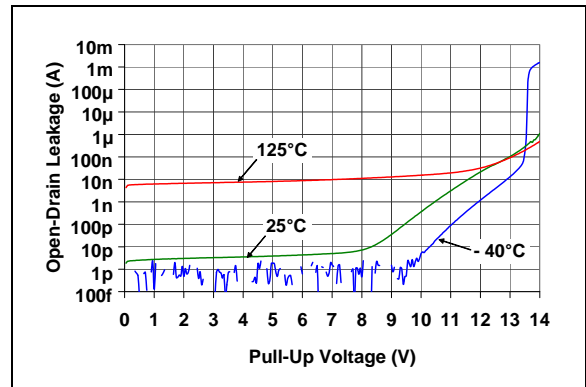

FIGURE 2-28: Open-Drain Leakage Current vs. Voltage Applied to V_{OUT} Pin (MCP111-195).
Note 3: This specification allows this device to be used in PIC[®] microcontroller applications that require the In-Circuit Serial Programming[™] (ICSP[™]) feature (see device-specific programming specifications for voltage requirements). This specification DOES NOT allow a continuous high voltage to be present on the open-drain output pin (V_{OUT}). The total time that the V_{OUT} pin can be above the maximum device operational voltage (5.5V) is 100 sec. Current into the V_{OUT} pin should be limited to 2 mA. It is recommended that the device operational temperature be maintained between 0°C to 70°C (+25°C preferred). For additional information, please refer to Figure 2-28.
- Note 3:** This specification allows this device to be used in PIC[®] microcontroller applications that require the In-Circuit Serial Programming™ (ICSP™) feature (see device-specific programming specifications for voltage requirements). This specification DOES NOT allow a continuous high voltage to be present on the open-drain output pin (V_{OUT}). The total time that the V_{OUT} pin can be above the maximum device operational voltage (5.5V) is 100 sec. Current into the V_{OUT} pin should be limited to 2 mA. It is recommended that the device operational temperature be maintained between 0°C to 70°C ($+25^\circ\text{C}$ preferred). For additional information, please refer to Figure 2-28.